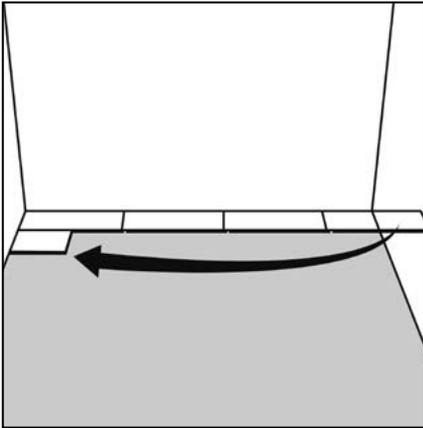

Figure 25 First plank, second row
- ▶ Insert a spacer between the end of the first row and the wall (expansion gap). Start this new row with the leftover piece from the last row (min. length 350mm – fig. 25).